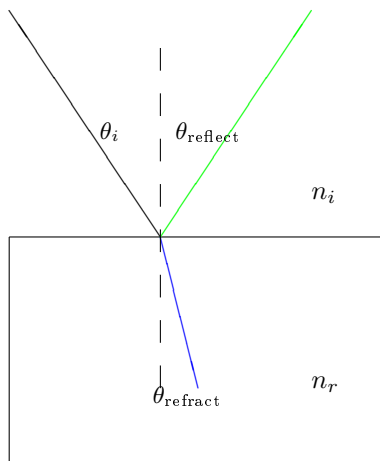

Figure 7.0.1: Some of the incident light from the upper left reflects to the upper right and the rest refracts into the material to the lower right.
Sir Isaac Newton developed a particle theory of light (essentially photons) in order to use geometry to explain two commonly observed optical properties of light: reflection and refraction. Those interested in optics in Newton's time had observed that whenever light is incident upon any surface, some of the light is reflected off from the surface and some of the light is transmitted through the surface. When the incident light approaches along a line normal to the surface, it continues along its straight-line path. However, when the incident light approaches at an angle as in Figure 7.0.1, then the light changes direction. The transmitted light is said to refract. The property that determines the amount of the refraction is called the *index of refraction* and is denoted by n . By convention, the angles for the incident, the reflected, and the refracted light are all measured from the line normal to the surface.
- (b) When light passes from a material with a small index of refraction to a material with a large index of refraction so that $n_i < n_r$, will θ_i larger than or smaller than θ_r ? Draw an approximate diagram indicating if the light bends *towards* the normal, as in Figure 7.0.1 above, or if it bends *away from* the normal.